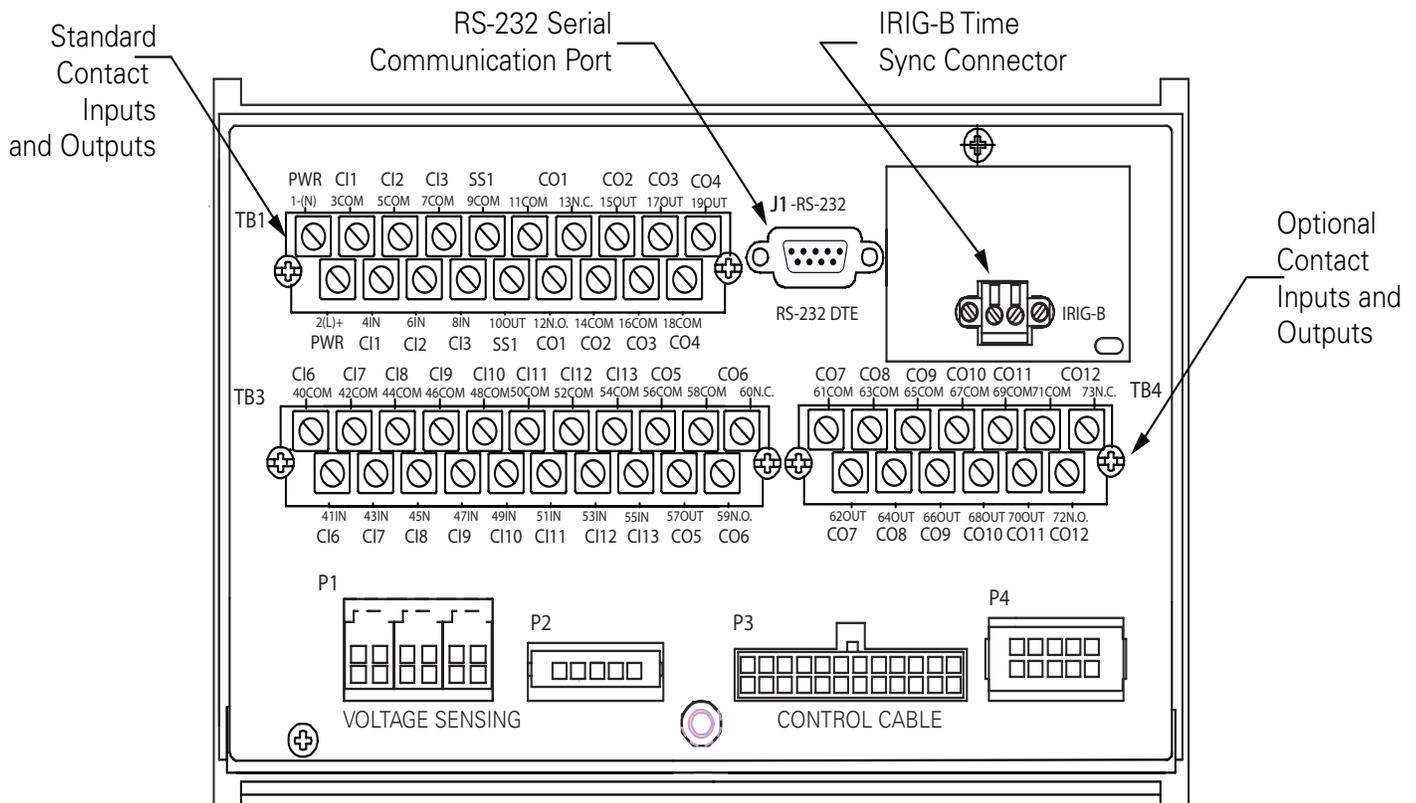

Figure 8. iDC switch control rear panel. Shown with standard communications option and optional additional I/O contacts.
There is one standard 9-pin RS-232 and one optional communication port (RS-485, serial fiber, Ethernet wire or fiber or both) on the back operator panel, as well as a standard IRIG-B port for user time-syncing. See Figure 8.
The iDC control comes standard with three (3) input and five (5) output contacts; one (1) input and four (4) outputs are user configurable. These allow connection of contact type input devices (switches, relays) and discrete indicating devices (relays, LEDs, lamps) to the iDC control to affect local input/output. An optional discrete interface board (DIF) is available with eight (8) additional inputs/outputs, all of which are user configurable. See Figure 8.